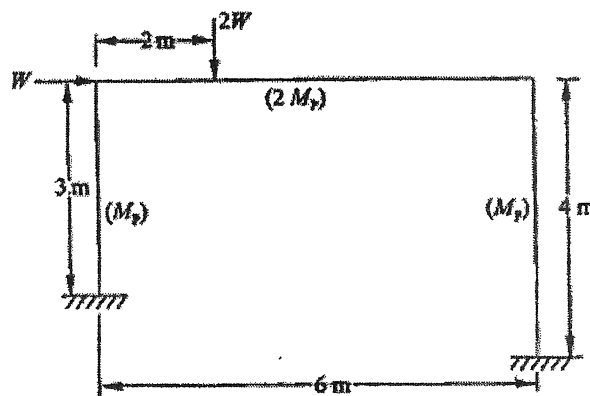

Fig.8
10. Determine the collapse load W_c in the frame shown in figure 8 given below :